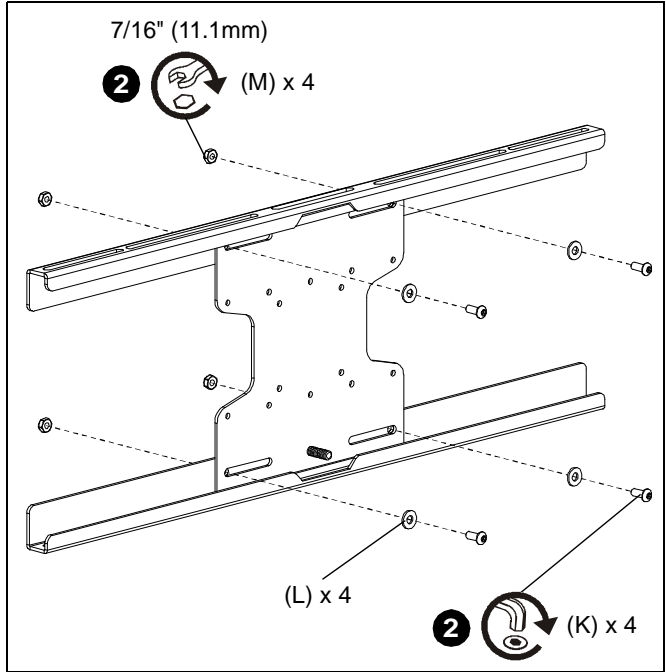

Figure 8
2. Using hex key (H), install four 1/4 x 5/8" button head cap screws (K) through four 1/4" washers (L), faceplate (E), faceplate brackets (B), into four 1/4" nuts (M). Tighten securely. (See Figure 8)